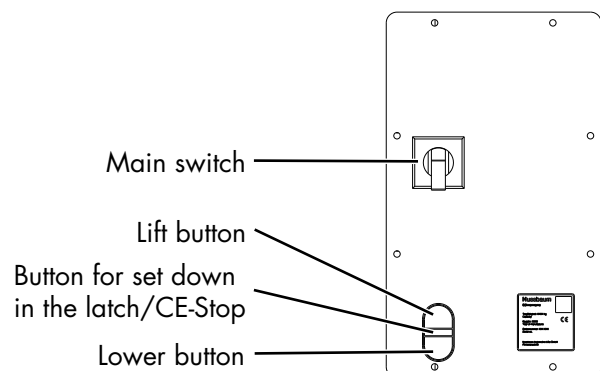

Figure 4: Operating unit
- Lift the vehicle until the wheels are off the ground. Push the lift button → "Lift" (see Figure 4)
- Lift the vehicle until the wheels are off the ground. Push the operating lever forwards → "Lift" (see figure 4).
- The lift stops automatically about 20 cm before it reaches the lowest position. To lower the lift completely, press the "CE Stop" (Figure 4) pushbutton, then the lift can be lowered completely via the lowering key. A beep sounds during lowering.
- The lift stops automatically about 20 cm before it reaches the lowest position. To lower the lift completely, press the "CE Stop" (Figure 4) pushbutton, then the lift can be lowered completely by slowly pulling the operating lever. A beep sounds during lowering.